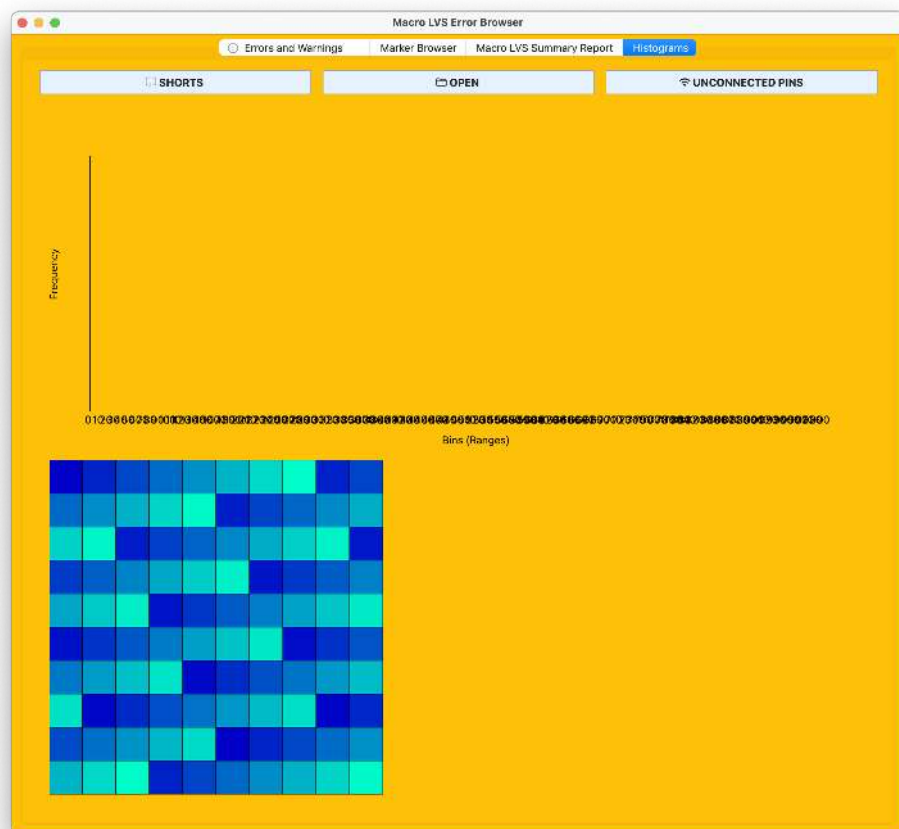

Figure 96: **Histograms.** No shorts/opens/unconnected-pin distributions are visible, consistent with a clean MLVS.
What this test checks. Unlike full-chip LVS, MLVS focuses on matching *macro cells*. It reports (1) top-cell match, (2) list of child cells (macro names), (3) coverage statistics (how many instances were verified), and (4) per-macro pass/fail. Common pitfalls caught here include missing device fingers, wrong pin text, misaligned contacts, or incorrect layer usage internal to the macro. For this run, the MLVS Summary Report (Fig. 95) shows that `sky130_fd_sc_hd__clkinv_16` instances are verified and pass, with zero shorts/opens shown in the histograms tab (Fig. 96).